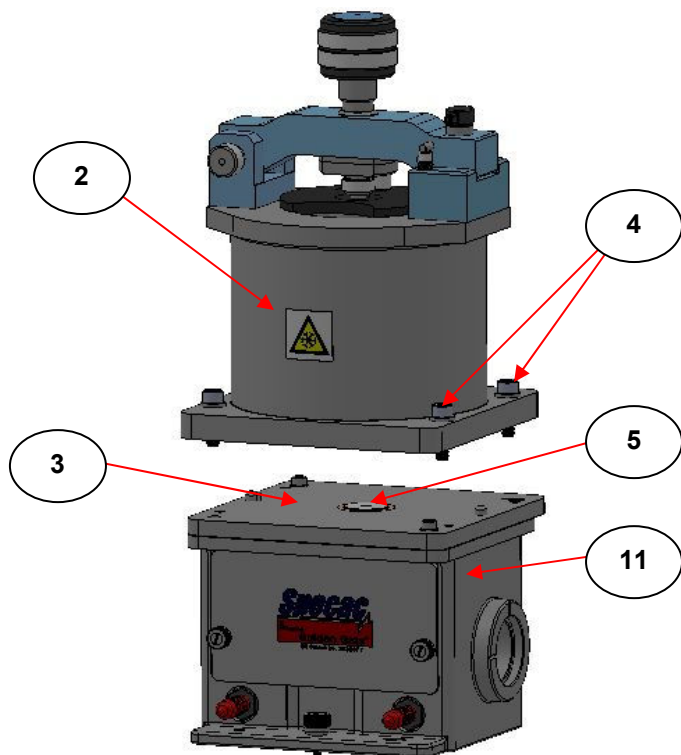

Fig 4. Separation of Low Temperature Golden Gate™ Dewar Assembly from Heated Top Plate and Optical Unit Assembly
The Low Temperature Golden Gate™ ATR top plate cold dewar assembly (2) is attached to a stainless steel heated top plate assembly (3) by the four clamping screws (4). (See Fig 4.) These four screws need to be unscrewed (using the long T bar type Allen Key 5mm) to separate the cold dewar assembly (2) from the heated top plate (3) to allow for attachment of the complete Low Temperature Golden Gate™ top plate assembly to the Golden Gate™ optical unit (11). The dewar assembly (2) is also removed from the heated top plate assembly (3) to change and/or clean and inspect the thermal transfer gasket (5) against the diamond /tungsten carbide support disc (1).
When tightening the four clamping screws (4), (see Fig 4.) ensure that the two surfaces between the cold dewar assembly (2) and heated top plate (3) remain parallel and even all the way around their edges as the surfaces of the plates are clamped closer together. Evenness in fit ensures correct thermal contact and sealing of the thermal transfer gasket (5) between the dewar assembly (2) and the diamond tungsten carbide puck (1).